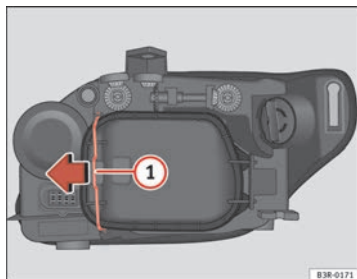

Fig. 214 Side light bulb (inside of vehicle)
- Move the brace $\Rightarrow$ fig. 214 ① in the direction of the arrow and remove the rigid cover, separating the brace side and then removing the two tabs from the other end of the cover.